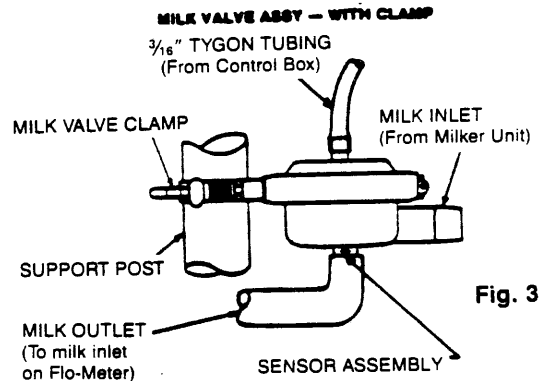

Fig. 3
4. Attach 412332 Milk Valve Assembly, included with 313324 Kit, to the lower support post so that the milk valve outlet is in line with the milk inlet of the Flo-Meter. Secure with milk valve clamp, also included in kit. (See Fig. 3)
5. Slide the 908368 Grommet on to 3/16" tygon tube and install in the 1/2" diameter hole in the bottom of the control box. Attach one end of tubing to the 909620 Male Elbow, connected to the bottom of the double valve in the A.T.O. Control Box, then attach other end to the top of the milk valve assembly. (See Figs. 3 and 4)